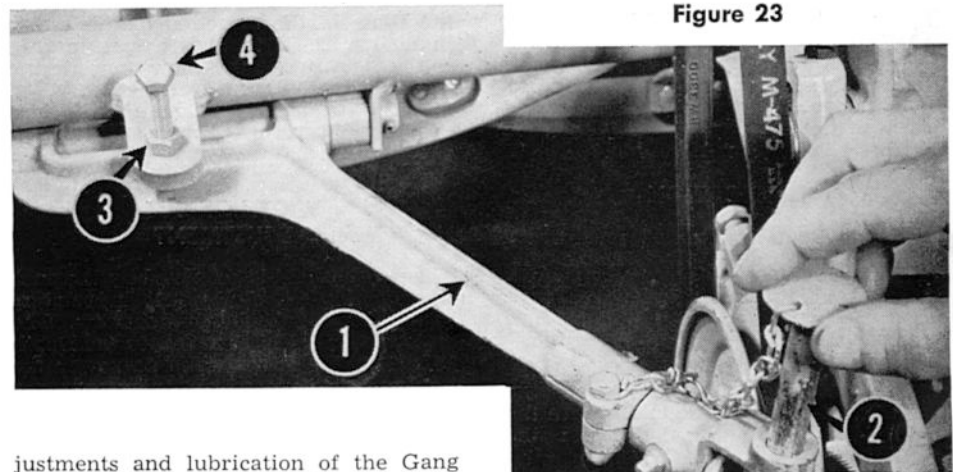

Figure 23
Next, attach the Leader, 1 in Figure 23, as follows:
1. Remove the top Tie Rod Bolt, 5 in Figure 20, replacing it with the Leader Pivot and Stud, as shown in Figure 23.
2. Attach the Leader Swivel to the Leader Pivot by using the Leader Swivel Pin, 2 in Figure 23. On new equipment, the Leader Swivel Pin may not fit easily because of paint on the Pin and inside the holes into which it fits. Use fine emery paper to remove the paint.
CUTTING HEIGHT. To adjust the cutting height, loosen the lock nut, 3 in Figure 23, and turn the Height Adjusting Screw, 4 in Figure 23, clockwise (to increase cutting height) or counter-clockwise (to lower cutting height). Tighten the lock nut when proper adjustment is reached.